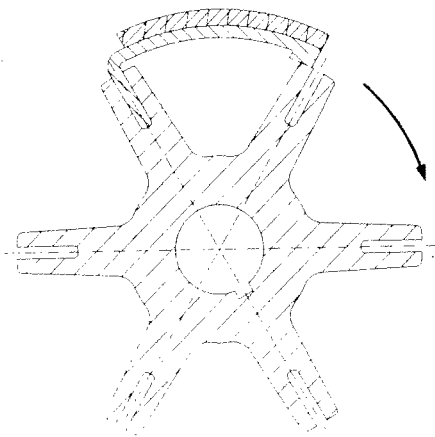

Figure 9.2
- 6) Preassemble shoe holder and clutch shoe (parts from 07.040.0 to 07.060.0) on motor axis 07.030.0 so assemble all parts and fasten with screw (07.010.0). **Clutch shoe must be set as indicate in fig. 9.2 and in tab 07(with reference to motor direction of rotation) and insert on shoe holder in symmetrical position.** Before assembly carefully clean shoe holder and clutch shoe with emery cloth.